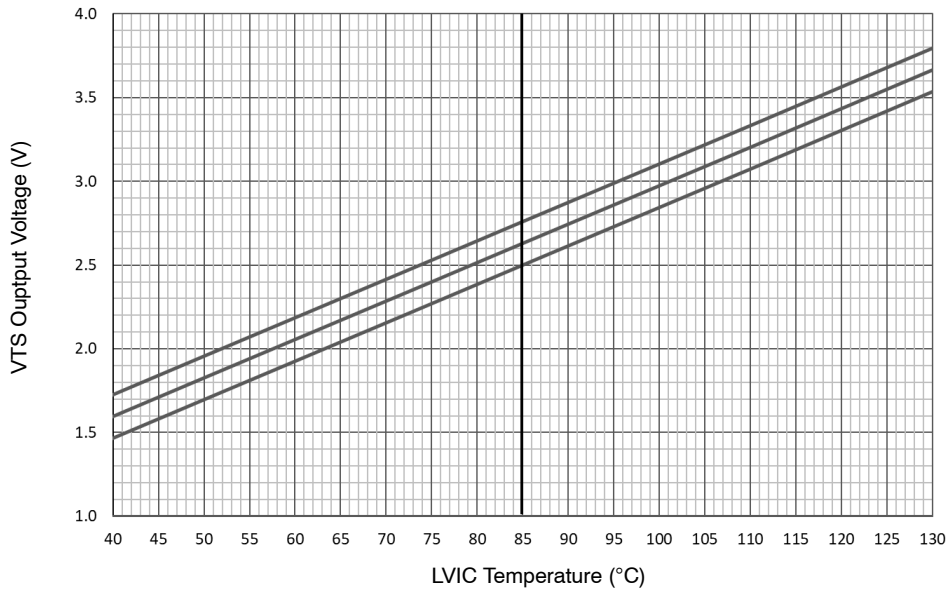
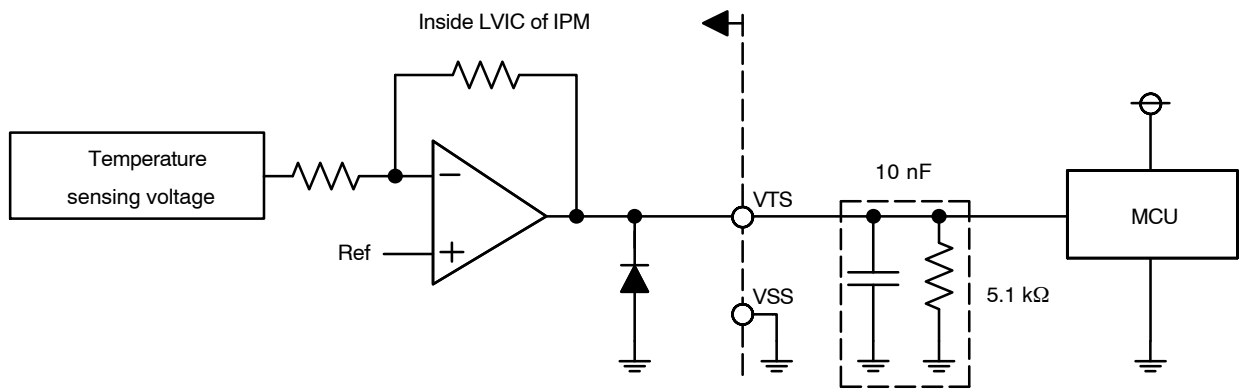

Figure 4. Temperature of LVIC versus VOT Characteristics
Figure 5. Internal Block Diagram and Interface Circuit of VTS
- TLVIC is the temperature of LVIC itself. VTS is only for sensing temperature of LVIC and cannot shutdown IGBTs automatically. The relationship between VTS voltage output and LVIC temperature is described in Figure 4. It is recommended to add 5.1k Ω pull down resistor between VTS and VSS (Signal Ground) as described in Figure 5 for linear output characteristics at low temperature. To reduce noise, 10 nF cap is recommended as well. Refer to the application note for usage of VTS.
To avoid malfunction, the wiring of each input should be as short as possible (less than 2–3 cm). Each capacitor should be mounted as close to the pins of the product as possible. VFO output is open-drain type. This signal line should be pulled up to the positive side of the MCU or control power supply with a resistor that makes IFO up to 1 mA. Please refer to Figure 5.